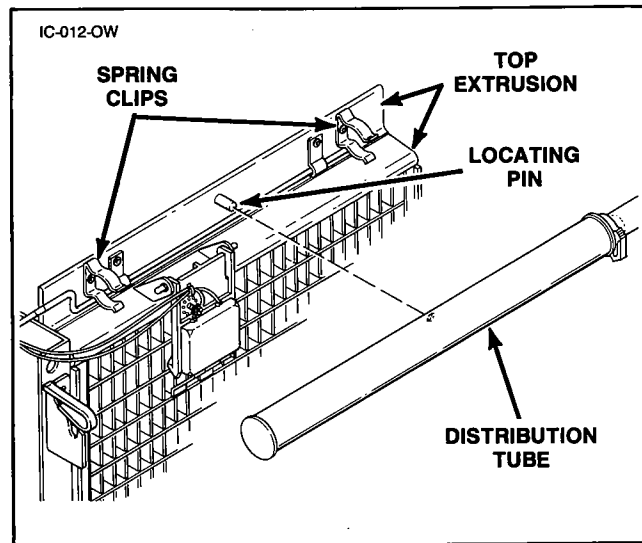

**FIGURE 12 FLOAT VALVE REMOVAL**
## REMOVE FLOAT VALVE (FIGURE 12)
1. Turn on water to ice machine at water service valve and ensure float valve is open, Figure 12.
6. Shut off water at float valve. See Figure 12.